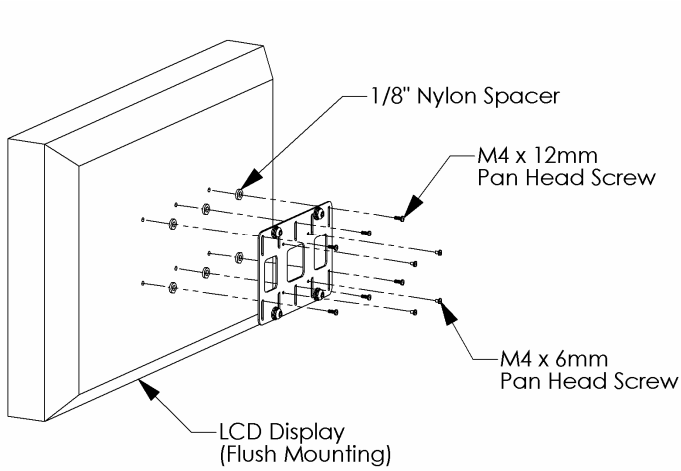

Figure 2
2. Secure the adapter plate to the flat panel display using 1/8" Nylon spacers and M4 x 12mm screws (see Figure 2).